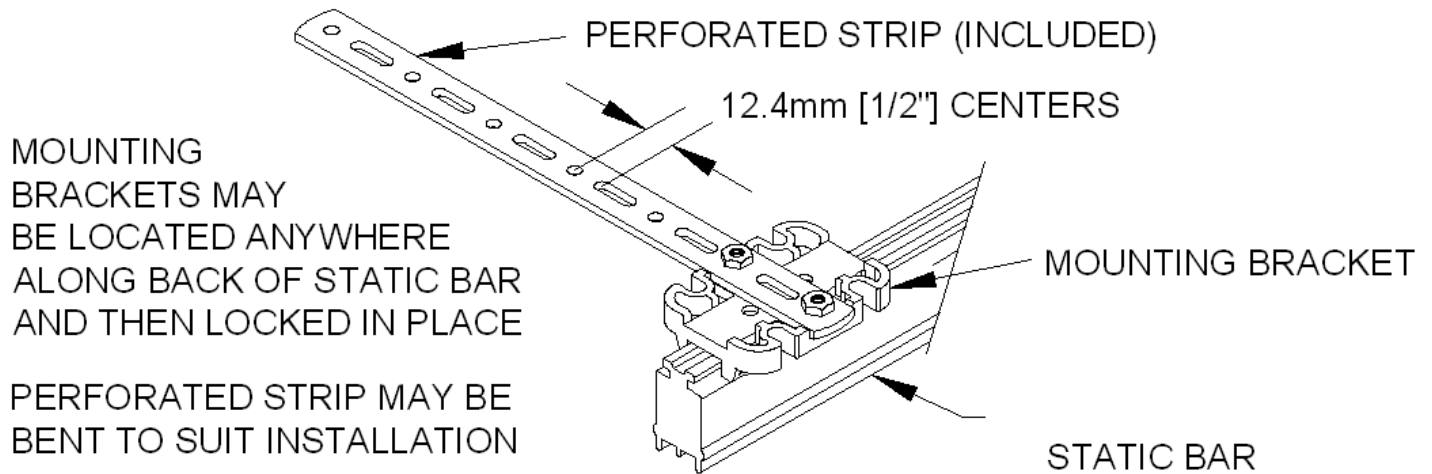

Figure 2. Static Bar Mounting Kit
The static bar is supplied with a mounting kit which contains “Blue” plastic mounting brackets, perforated strips, hardware, and set screws (Figures 2 and 3).
4. Locate the “Blue” plastic mounting brackets and slide them onto the “T” channel on the back of the static bar. Refer to Figure 2.